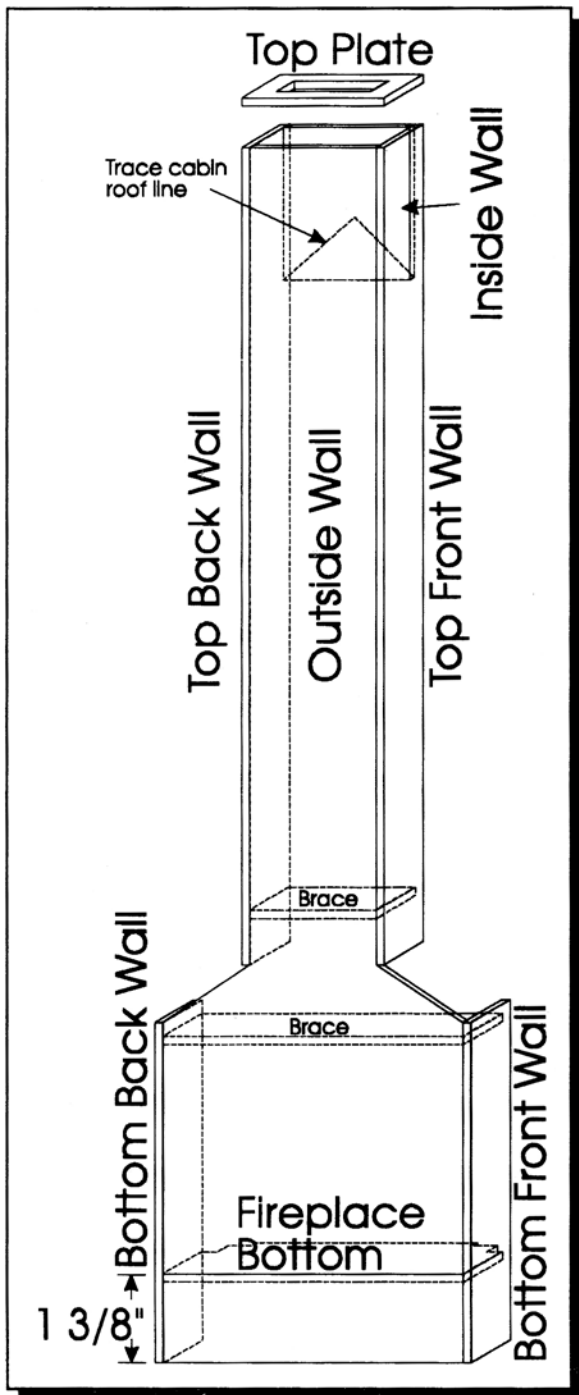

Figure 24- Chimney Assembly
a. From the dieboard, gather the Fireplace, Outside Wall, Inside Wall, Top and Bottom Front Walls, Top and Bottom Back Walls, Top Brace, Bottom Brace, Fireplace Bottom, and Top Plate. Assemble Chimney as in Figure 24.